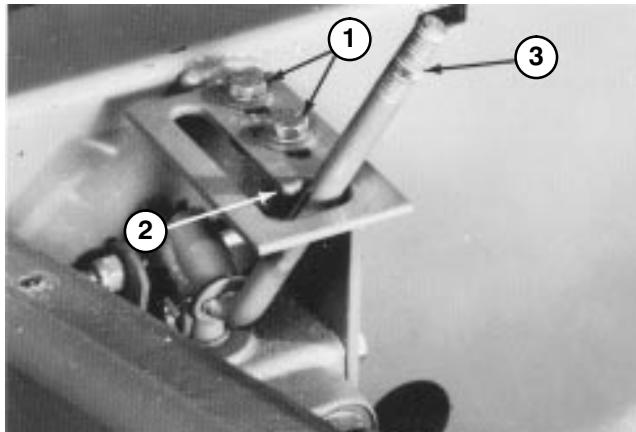

Figure 64
3. Loosen two capscrews on top of the lift lever latch (Fig. 64). Place lever on rounded tip of latch (Fig. 64), and slide latch w/lever forward until stopping resistance is felt. Then tighten capscrews to lock the latch in place. Check for free operation of the lift lever by moving lever from RAISE or TRANSPORT to FLOAT position. Lift lever should just clear rounded position of latch as lever is moved into FLOAT position.